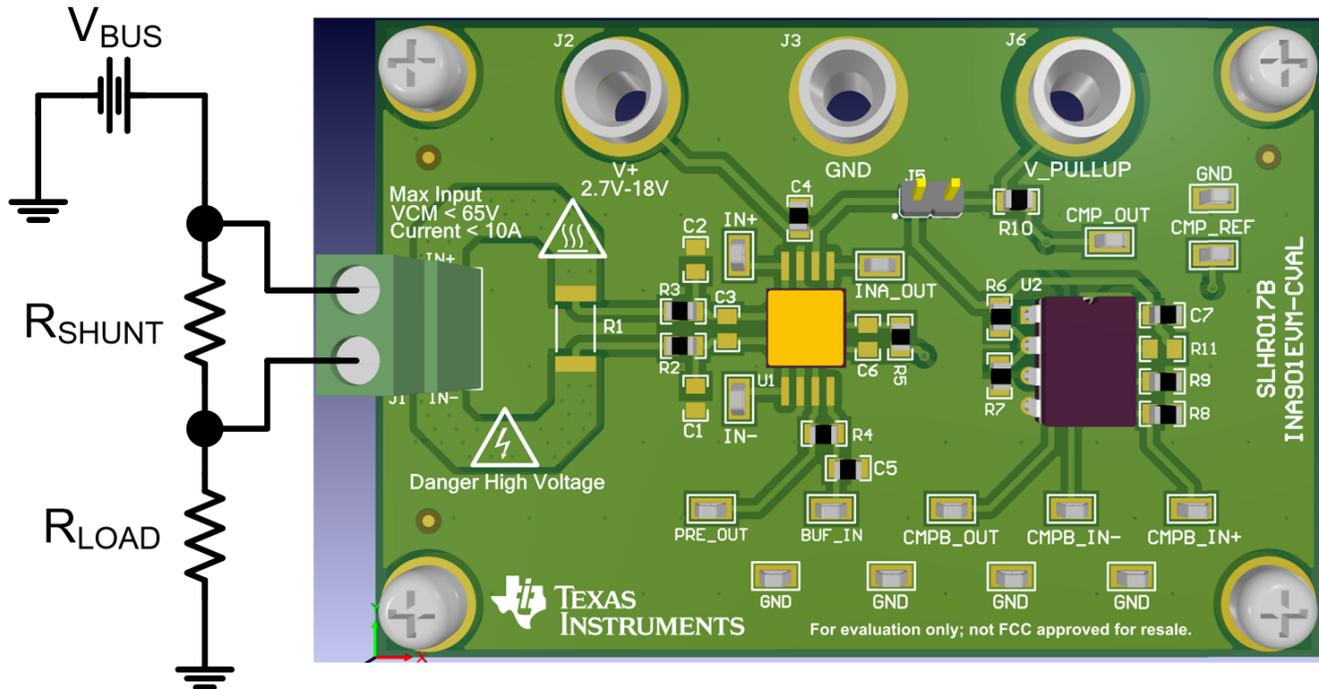

**Figure 1. High-Side Setup Using Onboard Shunt Resistor**
- Step 2. Connect the positive and negative terminals of J1 in series with the load and bus voltage sources while powered off. You will need to ensure proper logical order to test either the high-side, or low-side application. See TI Precision Labs - Current Sense Amplifiers: Design Considerations for additional information on proper application and orientation. Figure 1 shows the correct connections for a high-side application using this method.